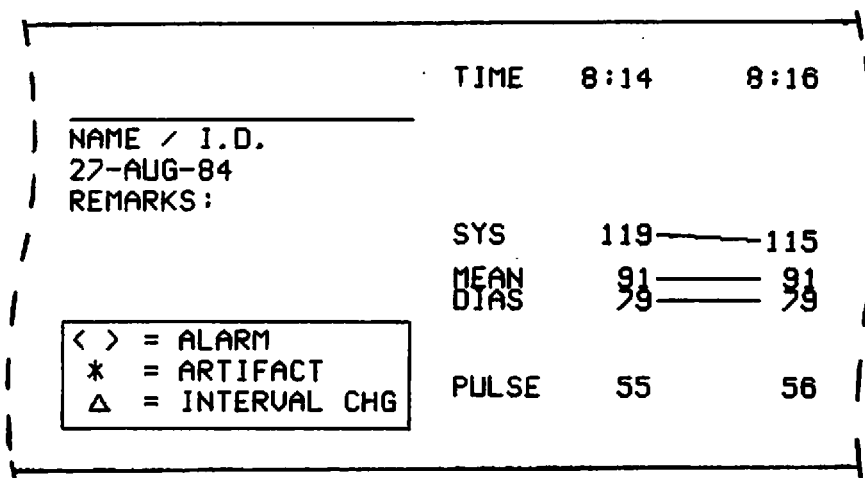

FIGURE 2-6. PRINTER ANNOTATION - AUTOMATIC MODE, TREND
- F. The inflation cycle should repeat automatically. When the second determination is complete, verify that the printer trends the first and second determinations. See Figure 2-6.